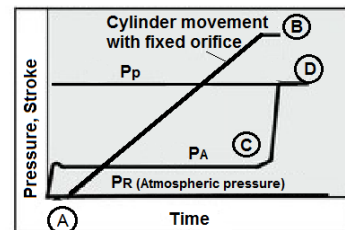

Figure 1
The meter-in control of the needle slowly moves cylinder From A to B (Figure 1).
-When Ps < PA after the cylinder reaches B (Figure 1), the main valve fully opens and PA increases rapidly as shown from C to D (Figure 1) and becomes the same pressure as Ps.